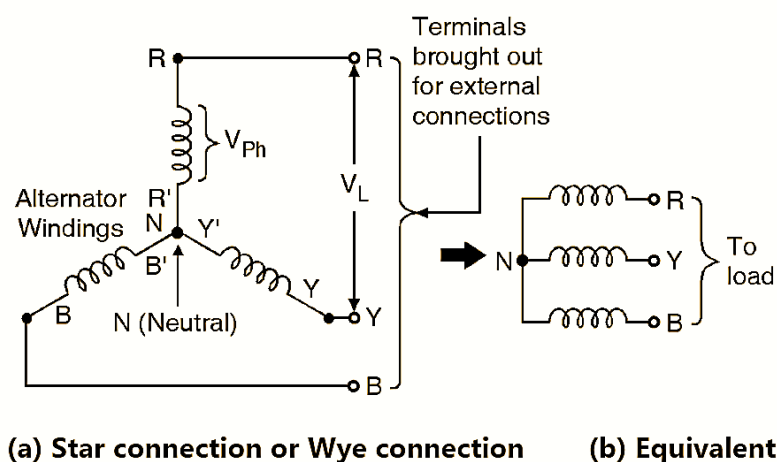

Figure 1.
- Figure 1,2 <https://howelectrical.com/wp-content/uploads/2023/11>